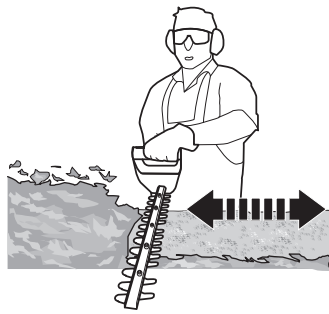

Fig. 11
10. Cut in a number of stages to achieve a better result rather than trying to cut in one go if the area being cut is particularly long (Fig. 11); smaller cuttings will allow for easy composting.